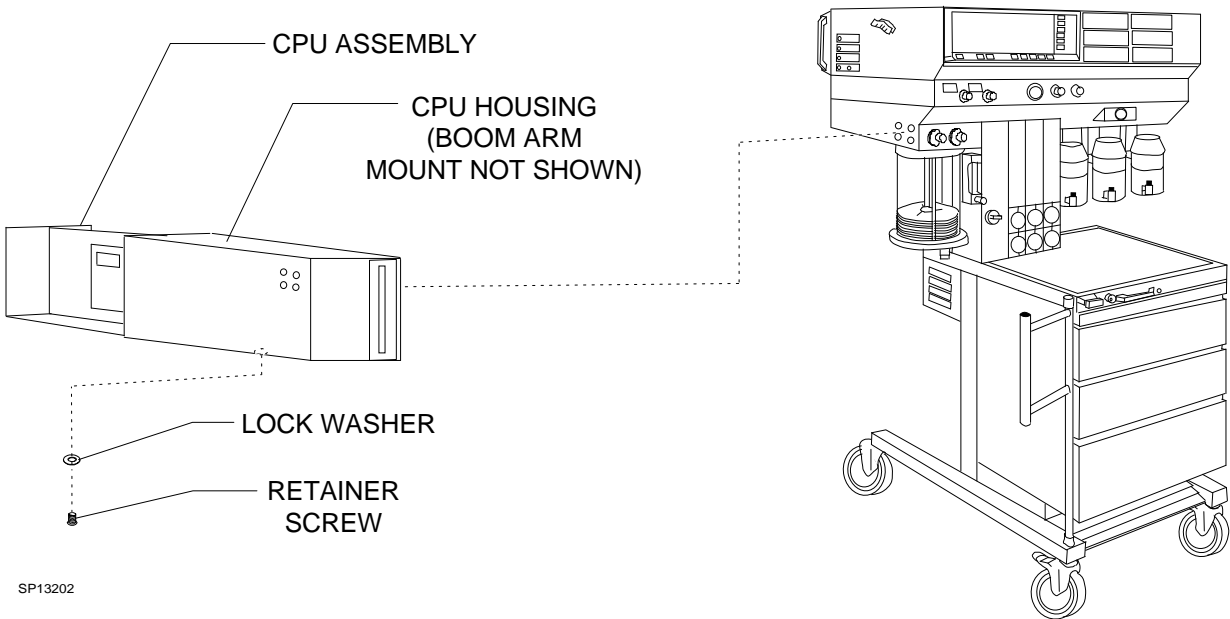

Figure 2: ORDM CPU HOUSING
7. Remove the CPU retainer screw and lock washer from the underside of the CPU housing as shown in Figure 2.